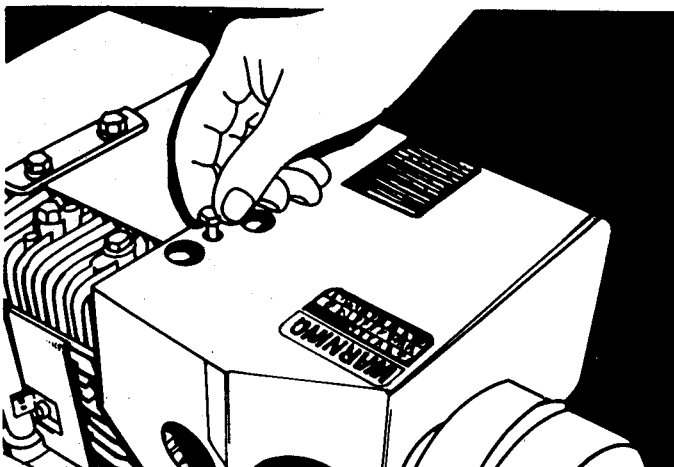

FIGURE 61
1. Remove capscrew on top of Carburetor Cover as shown in Figure 61.